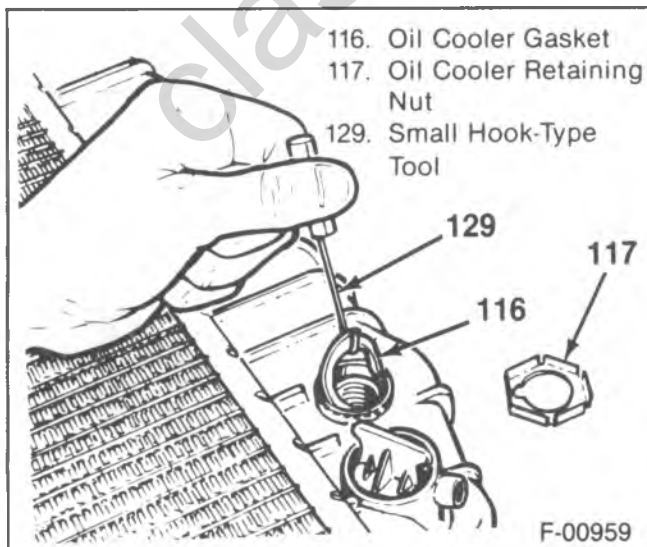

Figure 37—Removing the Oil Cooler Gasket
Remove or Disconnect (Figure 37)
3. Press the oil cooler into the hole and remove the gasket using a small hook (figure 37).
Install or Connect (Figure 37)